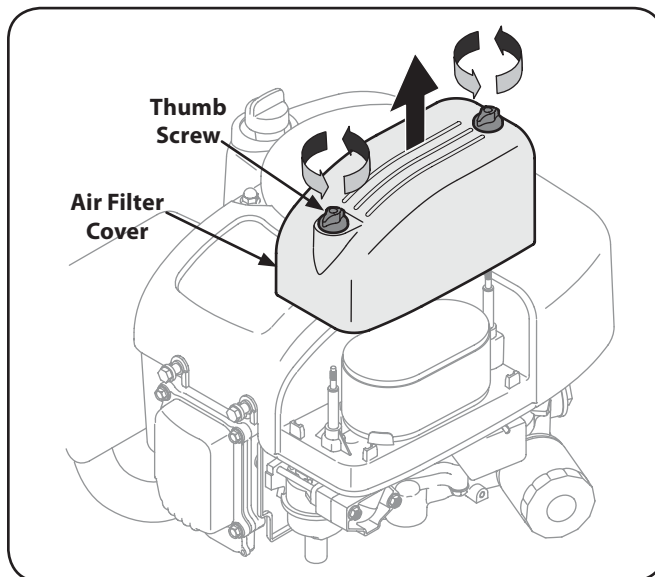

Figure 6-4
1. Unscrew the thumb screws and remove the air filter cover. See Fig. 6-4.